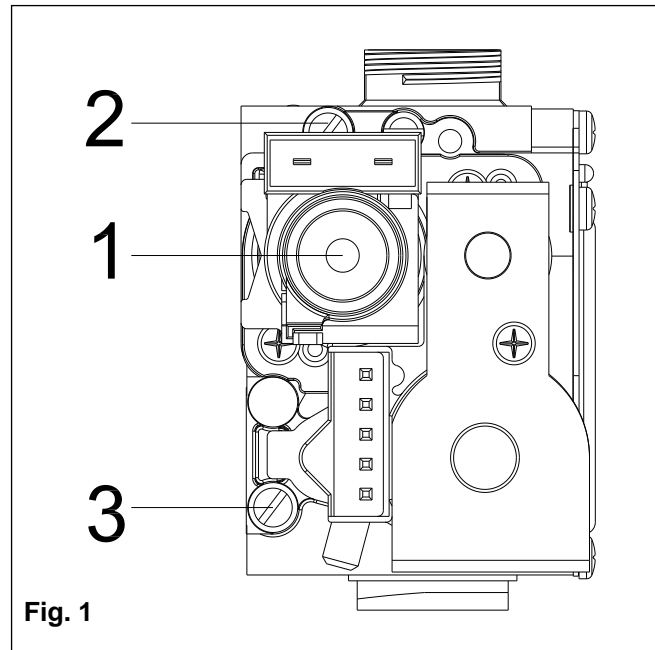

Fig. 1
- Check that the cap of the air vent valve has been loosened slightly to allow air to escape from the system (fig.1).
- Loosen the screw of the gas pressure point no. 3 (fig. 1), and insert a Gas Manometer
- 1) After completion of inlet gas pressure test (see above procedure) with the gas feed valve in the closed position loosen the screw of pressure port no. 2 (fig 1.) and insert a gas manometer. Re-open the gas feed valve;
- 10) Once the calibration procedure has been completed, use button  to select the OFF mode indicated by symbol , close the gas feed valve and remove the pressure gauge from the gas pressure point (fig.1).